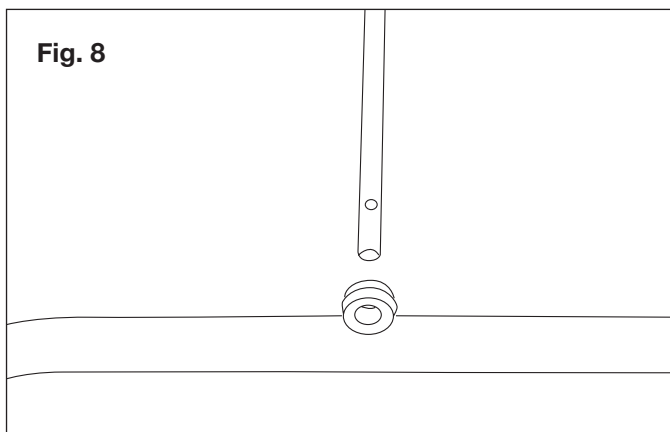

Fig. 8
1. Slide the upper chute crank through the rubber ring located on the middle frame (Fig. 8).